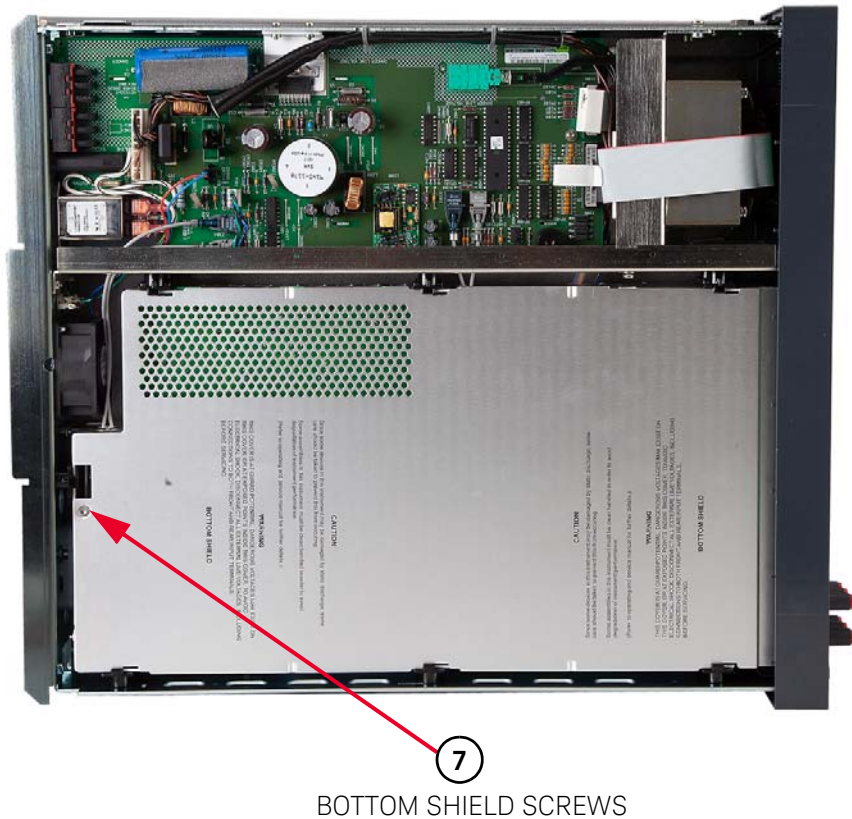

Figure 3-5 Remove/Install bottom shield screw
- 15** Refer to Figure 3-5. Use the #TX10 Torx driver to remove the bottom shield screw. Then remove the shield. Pull the shield toward the rear of the instrument until the shield retainers line up with the slots in the shield. Lift the shield off.
- 6** Refer to **Figure 3-5**. Turn the instrument over so its top sits on your workbench.